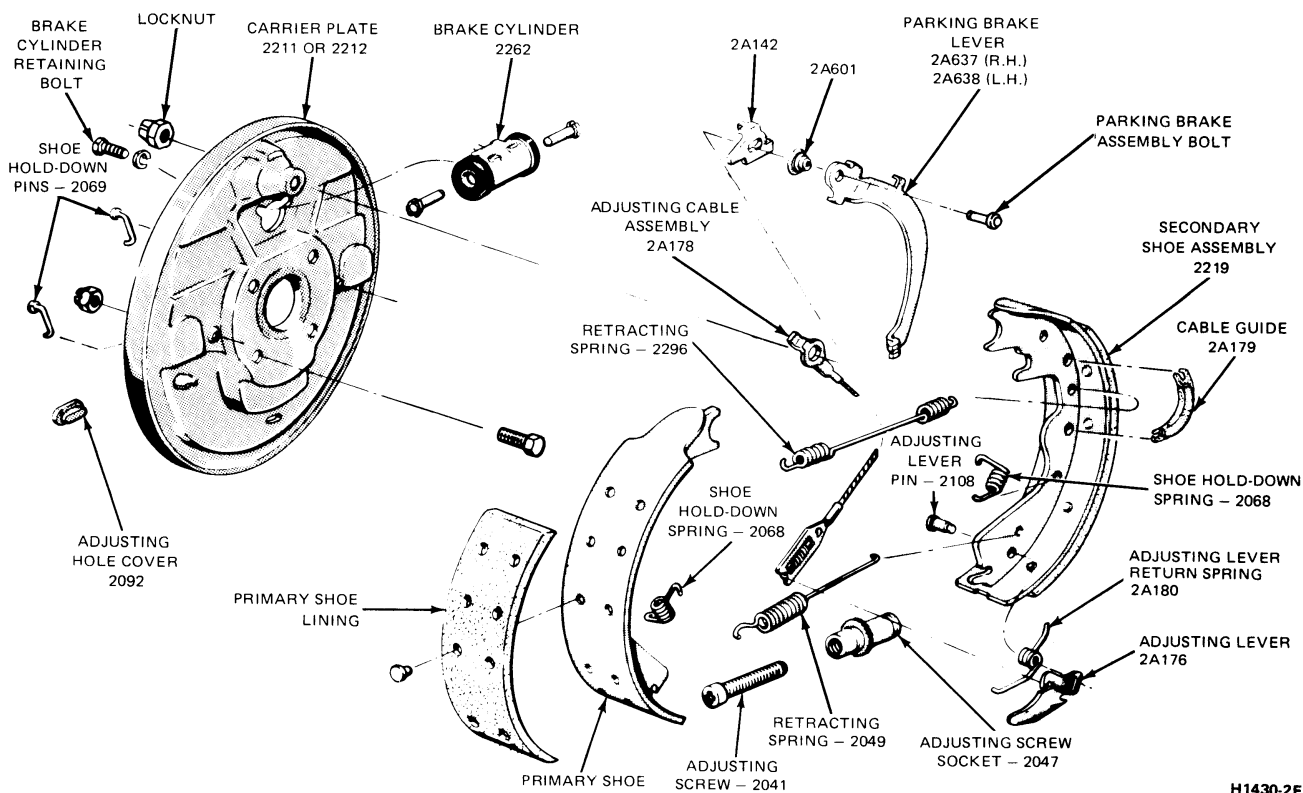

FIG. 13 F-250, F-350 and E-250, E-350 Rear Web Ledge Single Anchor Brake—Disassembled
5. Install the brake shoe hold-down springs (Fig. 13).